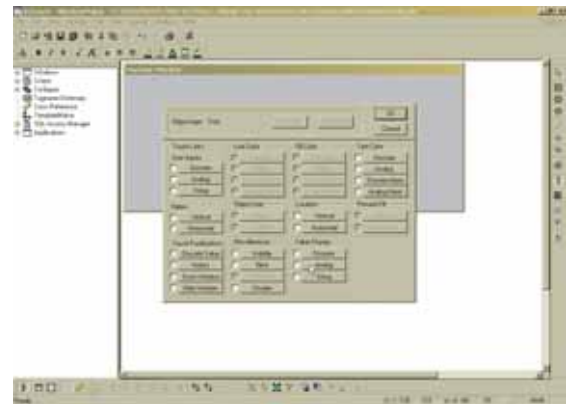

FIG. 244: WINDOWMAKER/OBJECT TYPE DIALOG BOX
Step 29. Click on Animation Links. The Object Type dialog box appears. (See Fig. 244)